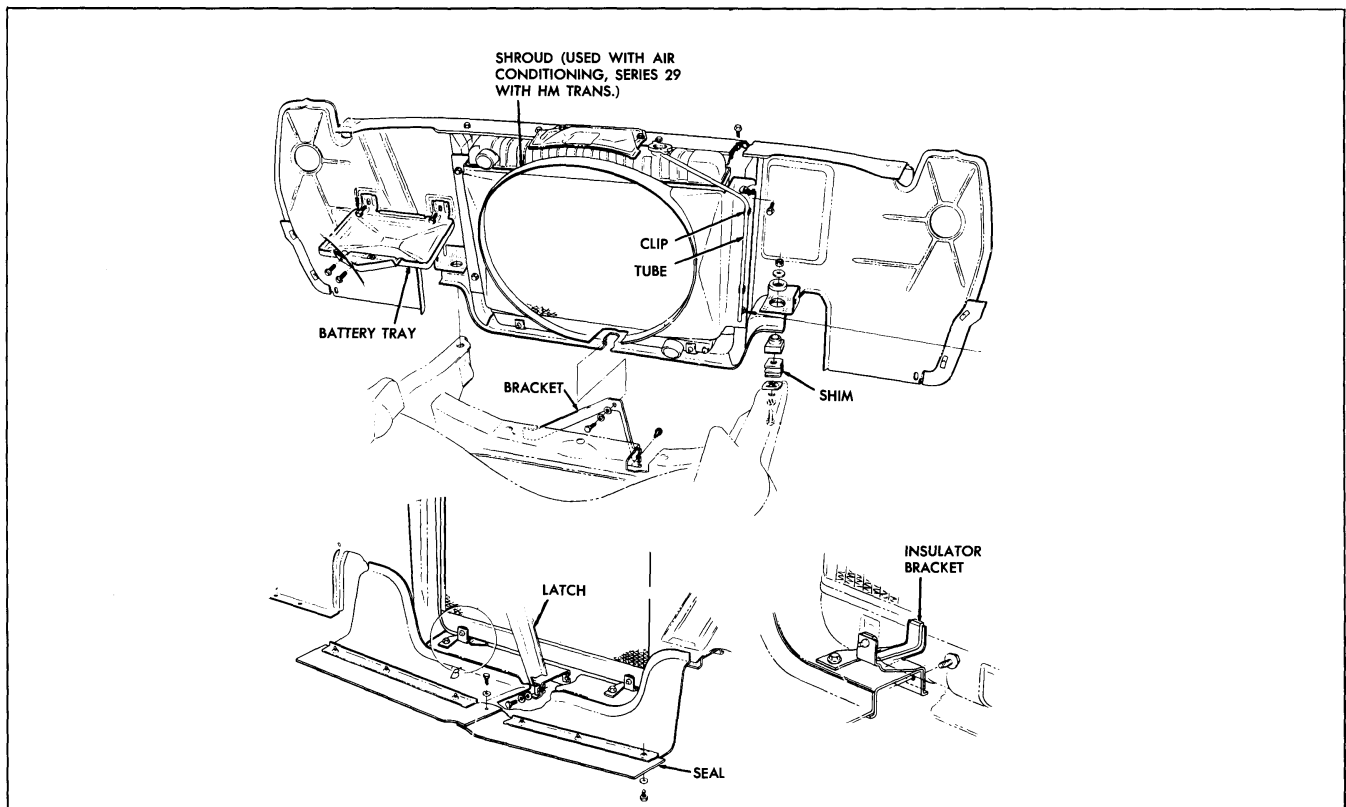

Fig. 1-3 Radiator Support and Baffle Assembly
2. Remove engine fan top shield. Note that the upper portion of the radiator is held by a "cradle" type bracket on the bottom side of the engine fan top shield (Fig. 1-3).
6. Remove radiator by pulling straight up. Note that the radiator is held at the bottom by two "cradles" secured to the radiator shroud at bottom (Fig. 1-3).
Proper alignment of the front end sheet metal will provide proper relationship of adjoining sheet metal parts, ease of hood operation, and eliminate squeaks, rattles and vibration. (See Figs. 1-3 and 1-4).
A positive locking hood latch is used consisting of three assemblies: the safety catch and pilot that fasten to the hood and the release latch that attaches to the grille lower panel and radiator support (Fig. 1-3).